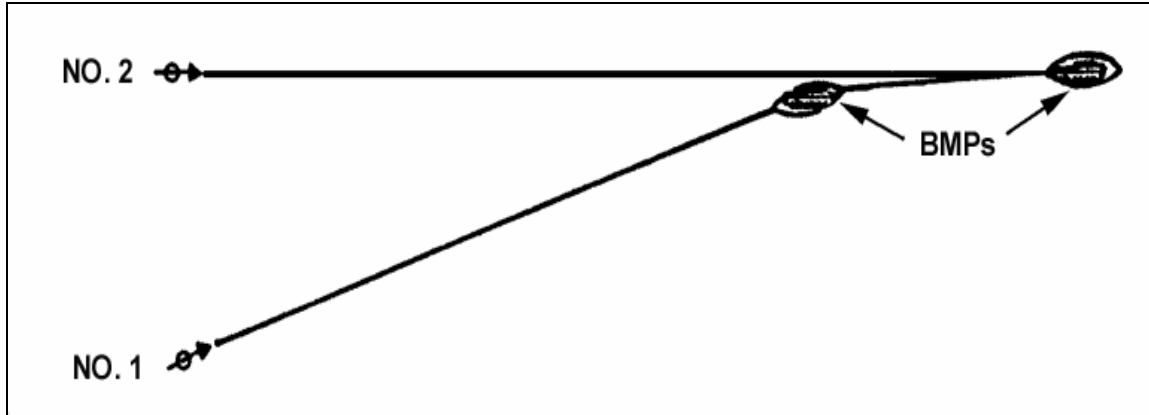

Figure 5-17. Two MK 19s, deep enfilade target, ends visible.
(1) **Target Ends Visible to Gunner.** The Number 1 gun is adjusted first on the near end and the Number 2 gun on the far end. Each gunner searches to the opposite end and back again repeatedly, until told to cease firing (Figure 5-17). Target depth is considered in determining sight settings. The command is SEARCH.